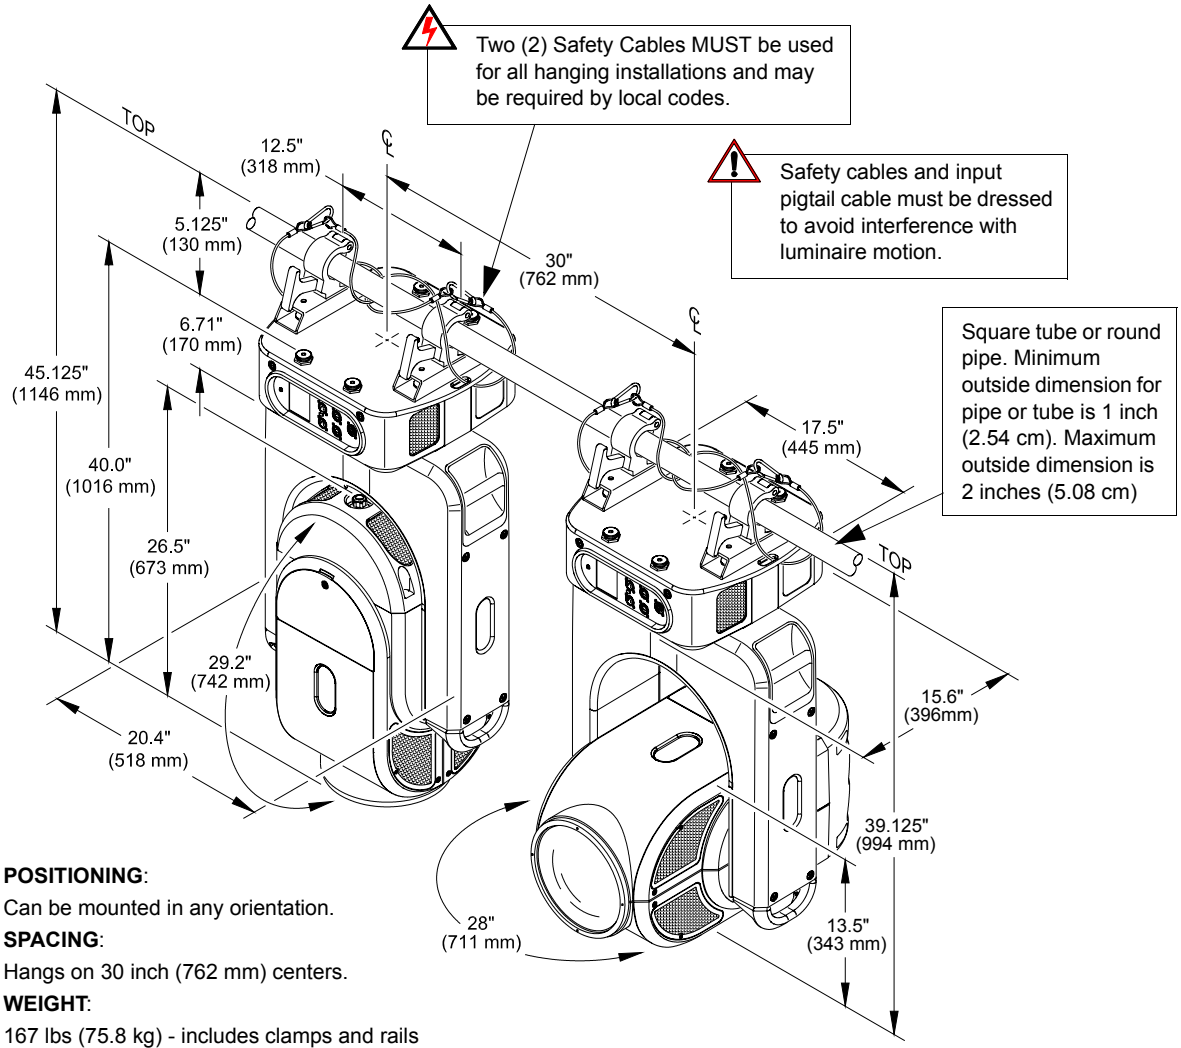

Figure 2-5: Standard Hanging Configuration and Dimensions
- Step 4. Secure in place by tightening Truss Hook wing bolts (Figure 2-5). Ensure that luminaire is fully supported.
- Step 5. Feed safety cables through mounting bracket slots and secure around pipe as shown in Figure 2-5.
**CAUTION:** Before applying power, be sure the luminaire is hung or positioned so that the head and yoke can move freely without restriction. Refer clearances in Figure 2-5 on page 15.